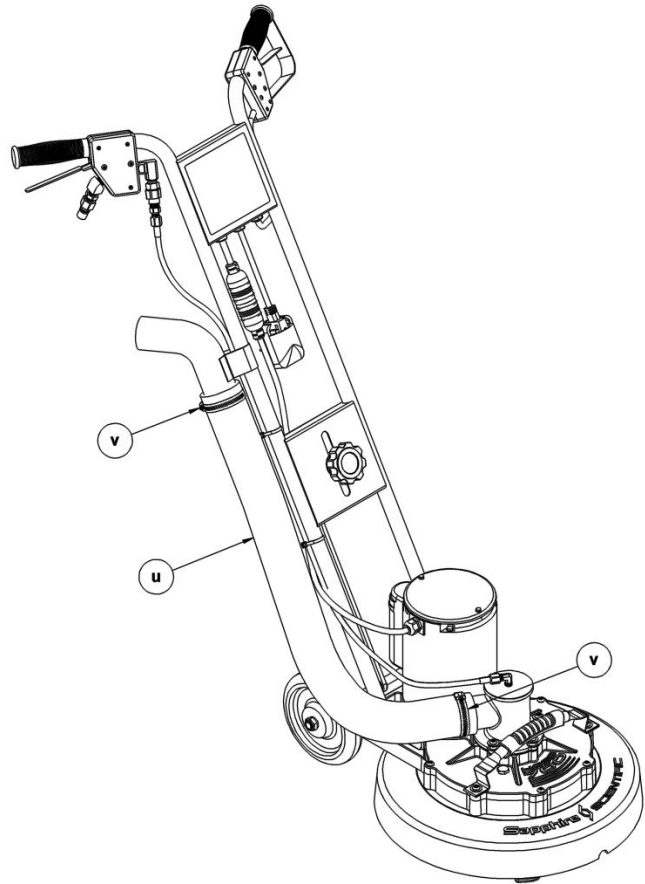

Figure 8.
8. Connect the Vacuum Hose (Figure 8.)
Slide one end of the 2 inch vacuum hose (u) over the vacuum port on the gear box and the other end onto the vacuum tube on the handle as shown in Figure 8.